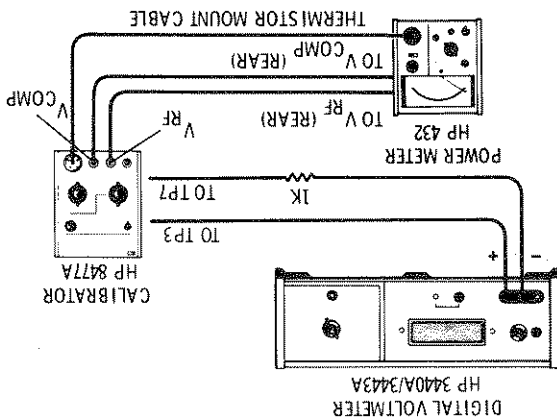
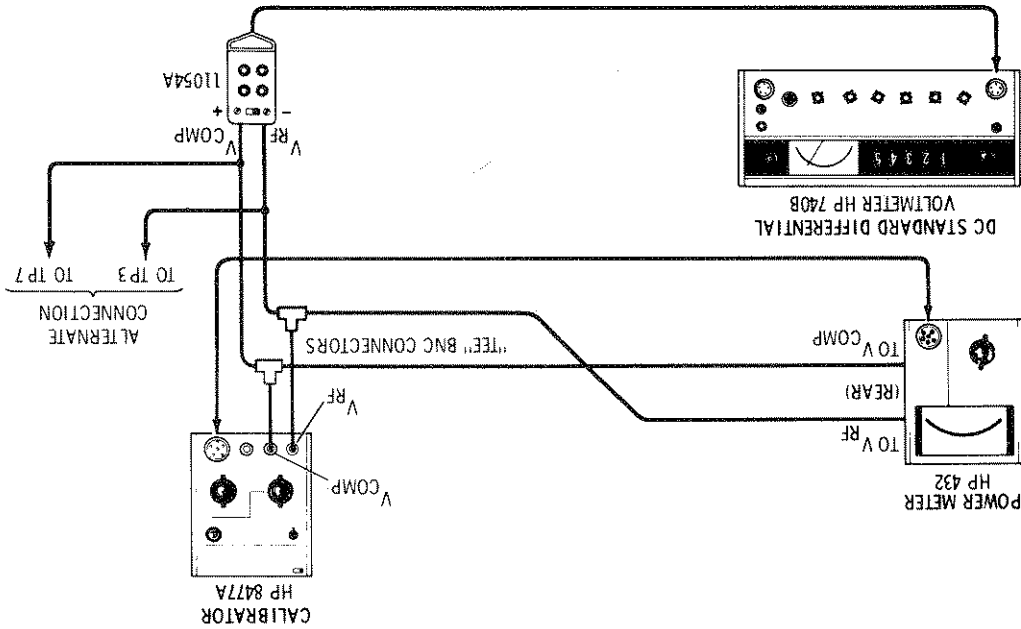

Figure 2. Zero Range Test Setup
Figure 4. Range Accuracy Test Setup
- b. Connect the equipment as shown in Figure 2. Connect the low side of the digital voltmeter to Test Point 7 with a 1K resistor in series with the test lead. The high side of the DVM is connected to BNC jack on the front panel of the 8477A and TP3 at the V_{comp} BNC jack on the front panel of the 8477A and TP3 at the V_{RF} jack. Use BNC tees on these connectors to monitor the test point voltages there, if desired. Except for the different voltmeters used, the equipment setup is identical to Figure 4.
a. After making the following instrument settings, connect equipment as shown in Figure 4.